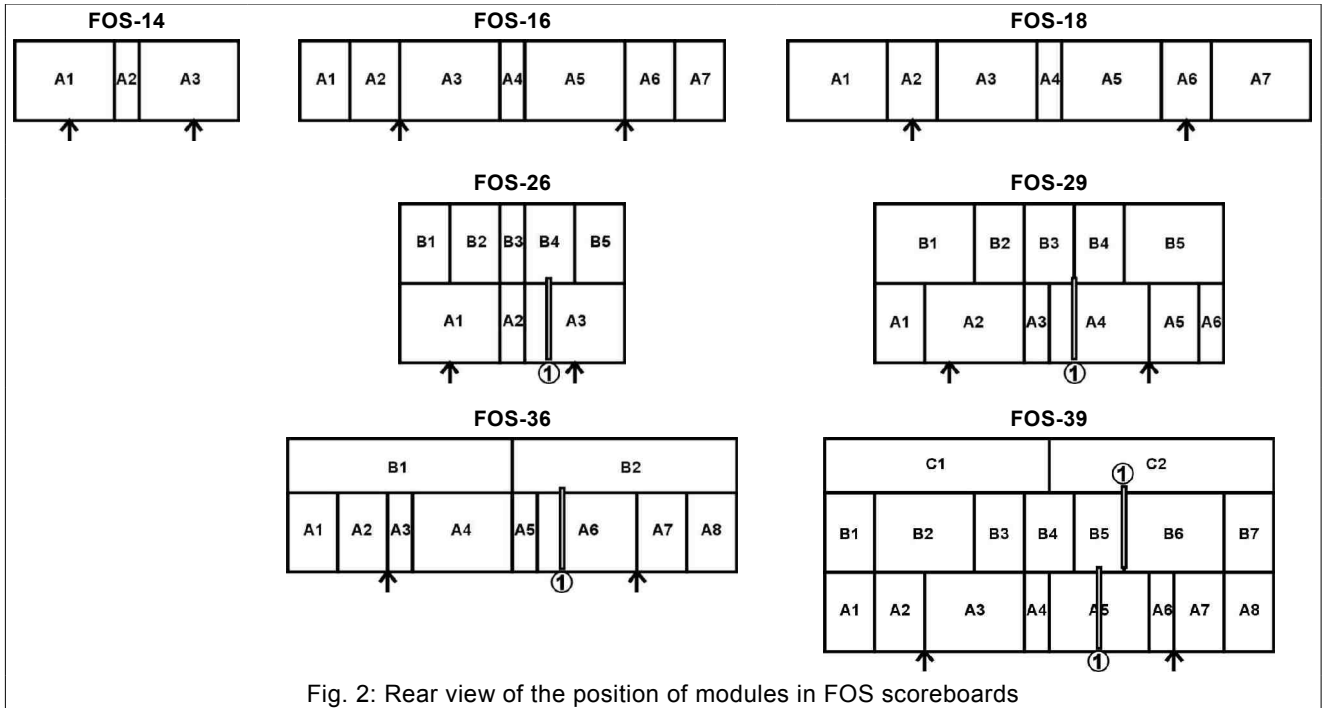

Fig. 2: Rear view of the position of modules in FOS scoreboards
Fig. 2 shows the position of each single module with a rear view of the scoreboards.
Assembly should be carried out on the floor. We suggest placing cardboard or other protection on the floor as a supportive base. First assemble each horizontal line of the scoreboard separately, then join them together. For each scoreboard model, the position of each module is indicated by a letter and a number in Fig. 2.
1. The modules lettered 'A' on their rear side should be positioned with their front sides facing the floor, from left to right, following the order shown in Fig. 2.
- After having completed all the line of the modules, position them together following the proper order of lettering (see Fig. 2), so as to form a complete scoreboard.
- Identify the two large brackets with 'Ω' profiles, whose form is indicated by the number 2 in Fig. 6, and then based on the scoreboard model position them vertically at the two points indicated by the arrows in Fig. 2.
- If the scoreboard is composed of more than one horizontal line of modules, a "cable conduit" should be attached in order to allow the passage of module cables from the top line to the lower line. For modules with more than one line, the position for fastening the "cable conduit" is indicated in Fig. 2 by the numbers 1.